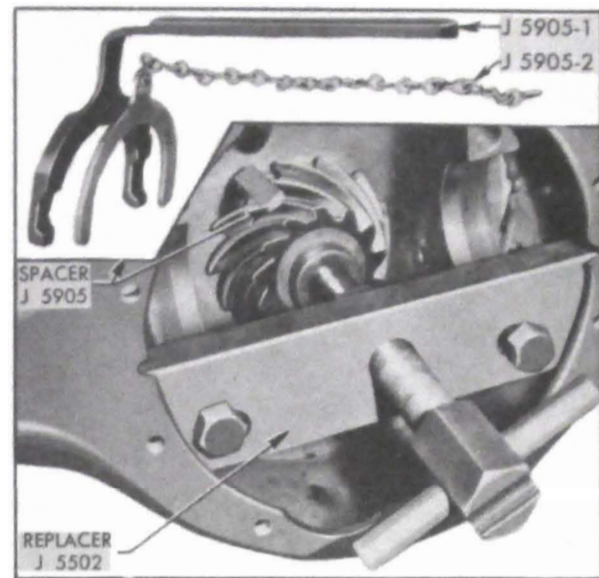

Figure 6-18—Pressing Pinion and Shaft into Place
4. As the pinion rear bearing enters third member housing, place the two parts of Pinion Bearing Spacer J 5905 between bearing and pinion gear as shown in figure 6-18. The tool allows bearing to be pushed into place without binding on the spacer on pinion, and is made in two parts to aid removal.
5. Mount Replacer J 5502 in carrier as shown in figure 6-18 and press shaft and pinion forward until shims and front bearing are firmly seated.